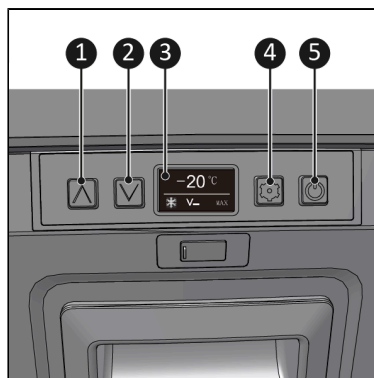

Figure 14.
1. Press the ON/OFF button (Figure 14, pos. 5) for 5 seconds.
1. Press the 'increase temperature' or 'decrease temperature' button (Figure 14, pos. 1 & 2) to set the desired temperature.
1. Press the settings button (Figure 14, pos. 4) until °C or °F flashes.
1. Press the settings button (Figure 14, pos. 4) until  $V_-$ ,  $V=$  or  $V\equiv$  flashes.
1. Press the settings button (Figure 14, pos. 4) until MAX or ECO flashes.
1. Switch off the device by pressing the ON/OFF button (Figure 14, pos. 5) for 5 seconds.